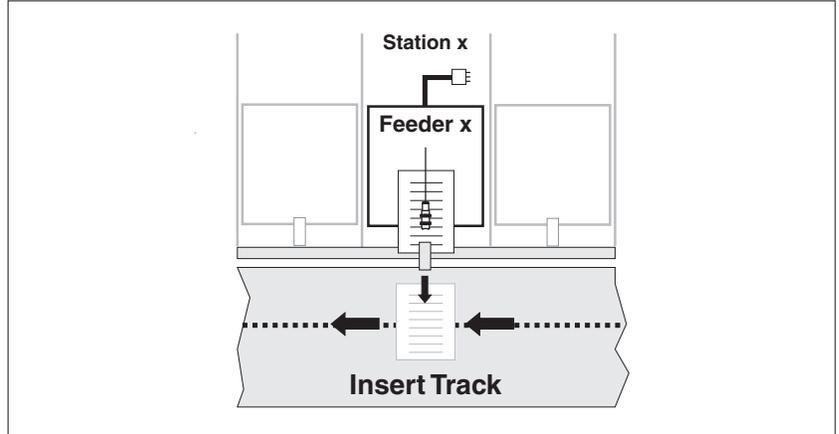

Figure 33. Cycling Inserter
- With the feeder already fully loaded and powered On, run the inserter through several cycles (Figure 33).